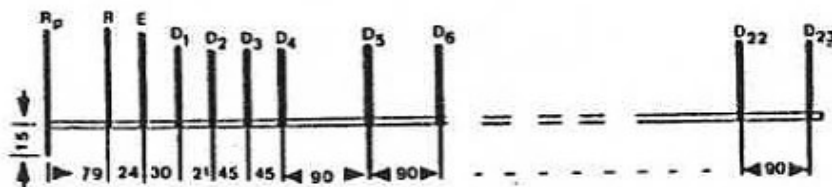

Fig. 1 Side View (All dimensions in mm)
This antenna provides a gain of 18 - 20 dB over dipole. The elements consist of circle-shaped loops. Behind the reflector loop (R) a second reflector (R₂) is arranged, consisting of a plain metal sheet (fig. 1). This enables gain optimizing without altering the match of the driven element (E).